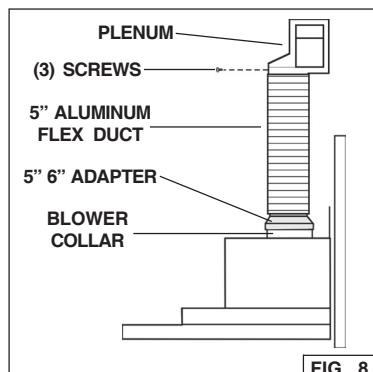

FIG. 8
2. Discard discharge collar and damper supplied with the hood. Install the 5" to 6" adapter supplied with the Non-Ducted Recirculation Kit. Fig. 8
3. Attach aluminum flexible duct to the 5" adapter. Tape all joints with duct tape. Fig. 8
4. Assemble the recirculation plenum to the flexible duct. Fig. 8
5. Drill three (3) 1/16" diameter equally spaced holes through the duct and duct connector of the recirculation plenum. Fig. 8
6. Secure duct to the plenum's connector with (3) sheet metal screws (not included). Tape all joints with duct tape. Fig. 8